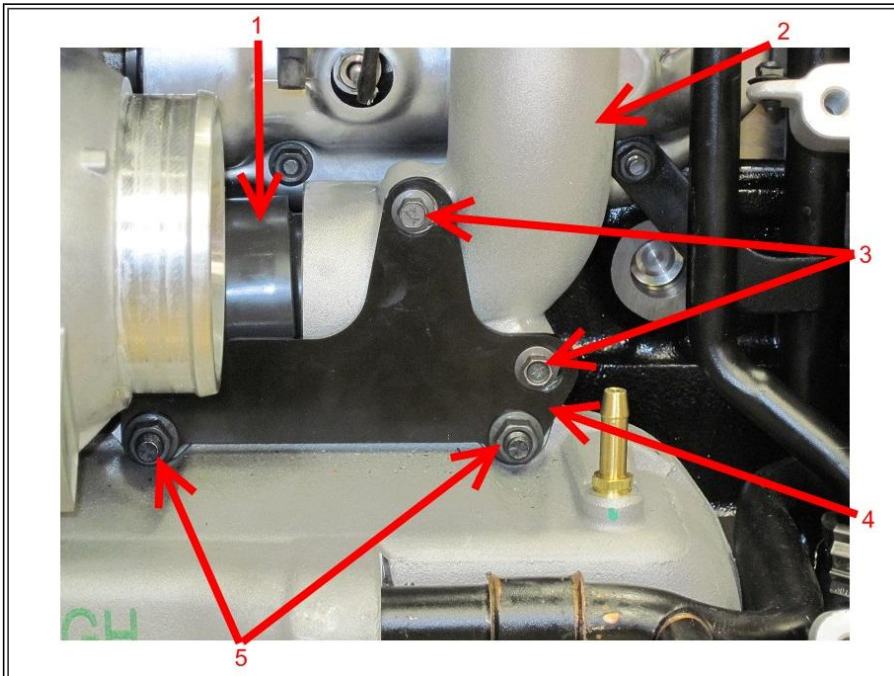

Figure 1: Oil Supply Tube at Oil Cooler Housing
1. Remove 2 bolts (**Figure 1**, Item 3) and 2 nuts (**Figure 1**, Item 5) and interstage tube support bracket (**Figure 1**, Item 4).